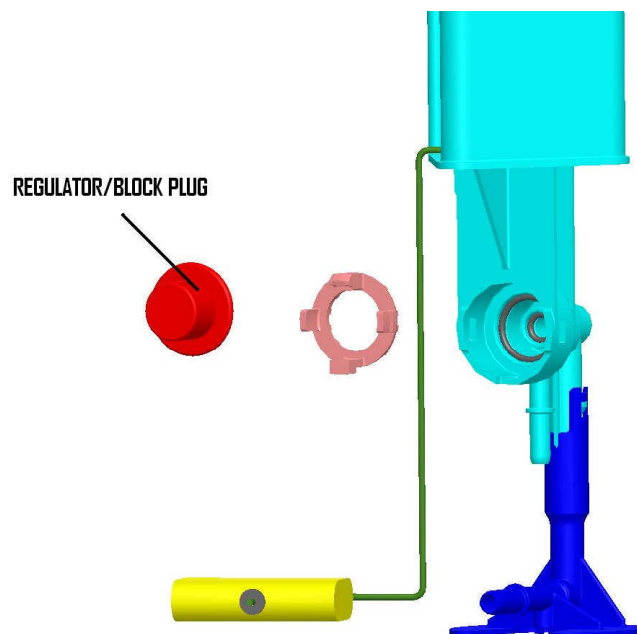

FIGURE 1-5
13. Once the lines are disconnected, remove the unit from the tank. Remove the regulator from the leveling unit and replace it with the regulator block-off plug provided. Use some light oil or O-ring lube on the block-off plug to ease installation. **FIGURE 1-5**